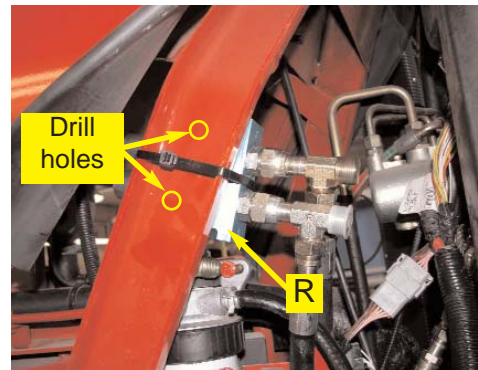

Figure 4a. Installed counter-balance valve block.
- a. The counter-balance valve (**R**) will be installed inside the left hood support. (Figure 4a.)